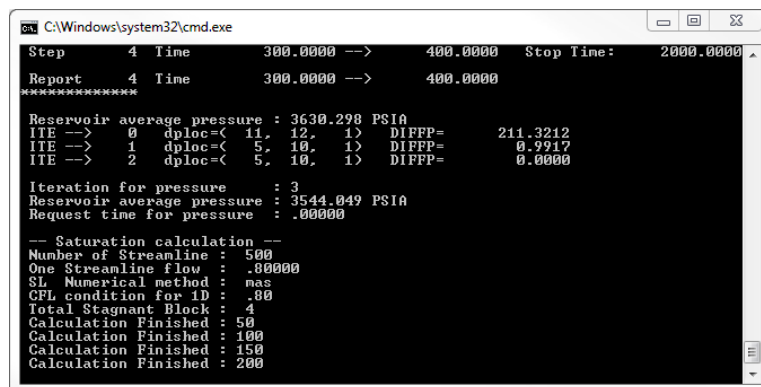

Figure 7: Simulation in Progress
6. Once modifications are complete (modified files need to be saved), the project is ready to be executed. For execution, Click **RUN** button (or the Speed Button with two running men). A DOS window will appear indicating progress of the simulation. (**Figure 7**). After successful completion of the execution, the DOS window will close with a message 'Successful Execution'.